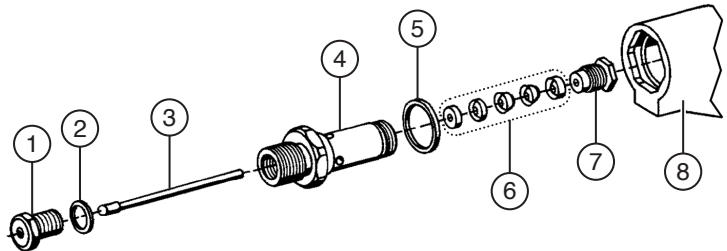

Fig. 17: Packing and valve needle
3. Insert the supplied hexagon socket wrench in one of the holes on the guide sleeve (see Fig. 17 on page 38).
4. Turn the guide sleeve until the threaded pin is positioned at the recess of the gun body (see Fig. 17 on page 38).